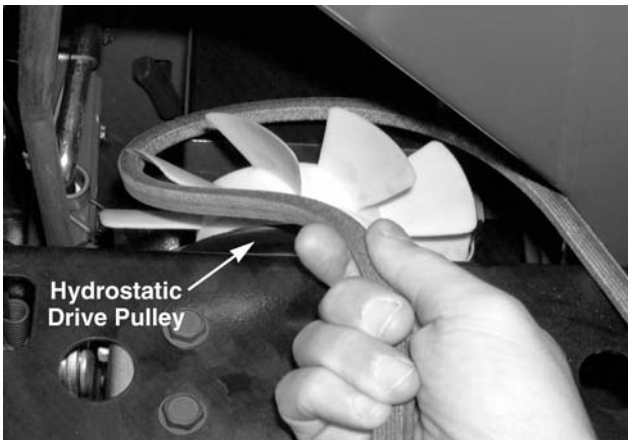

Figure 9-53
14. Roll the "V" belt off of the hydrostatic drive pulley. See Figure 9-53.